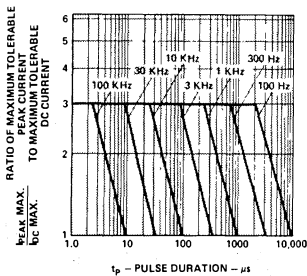

Figure 5. Maximum Tolerable Peak Current vs. Pulse Duration. ($I_{DC \text{ MAX}}$ as per MAX Ratings)
- See Figure 5 (Red/Orange), 10 (Yellow) or 15 (Green) to establish pulsed operating conditions.